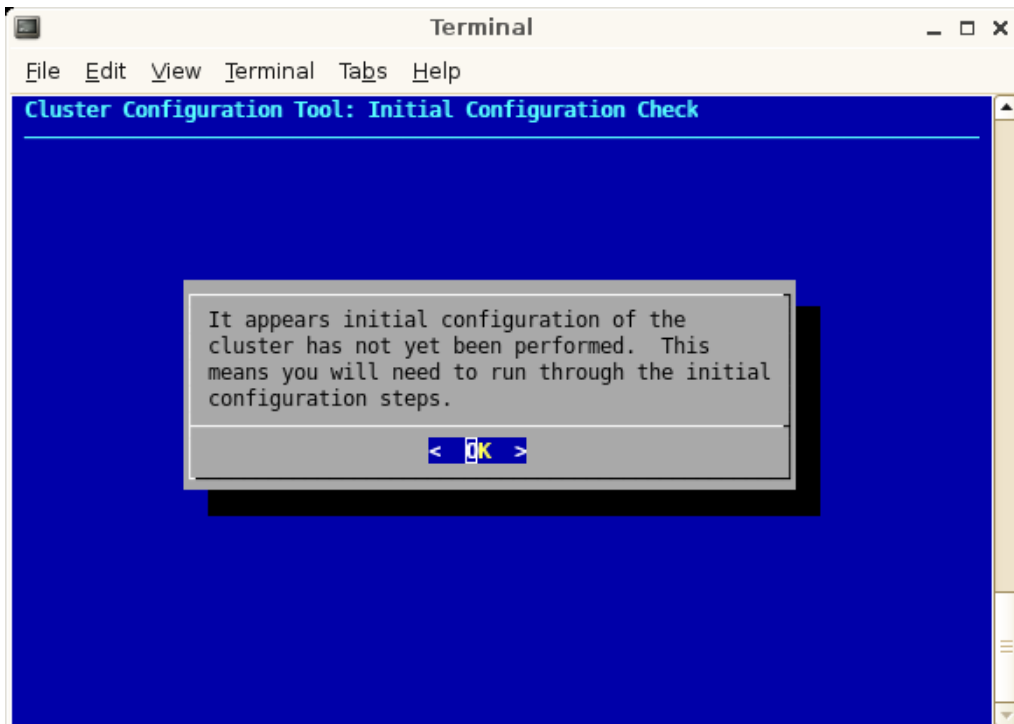

Figure 2-9 Cluster Configuration Tool: Initial Configuration Check Screen
21. The **Cluster Configuration Tool: Initial Configuration Check** screen appears, as shown in Figure 2-9 on page 37. This tool provides instructions on the steps you need to take to configure your cluster. Click **OK** to continue.